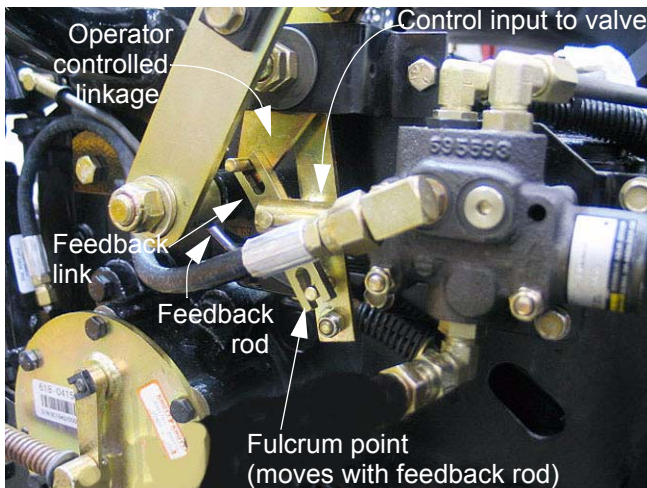

Figure 8.7
- 8.7. Inspect the feedback rod and link. If there is any sign of damage (bent rod, worn ferrule, stripped threads, etc....) or corrosion, repair the linkage. See Figure 8.7.